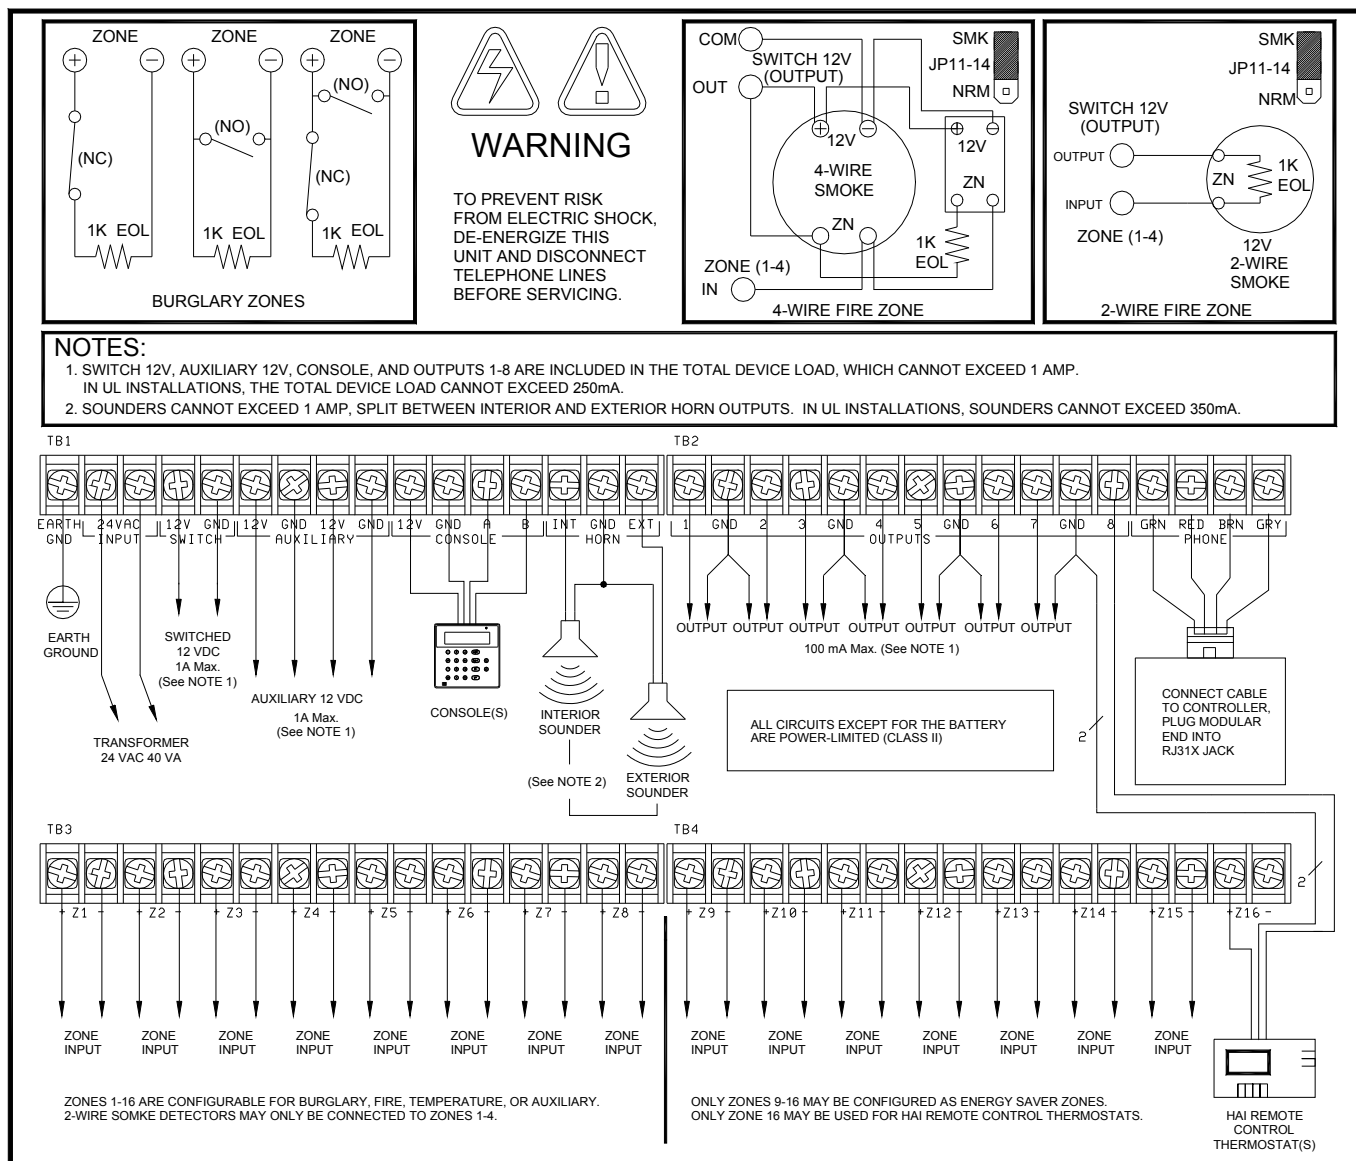

FIGURE 2 - OVERALL CONNECTIONS DIAGRAM
| FIGURE 2 - OVERALL CONNECTIONS DIAGRAM | 5 |
6. See **FIGURE 2 (OVERALL CONNECTIONS DIAGRAM)** for configurations of burglary zones.